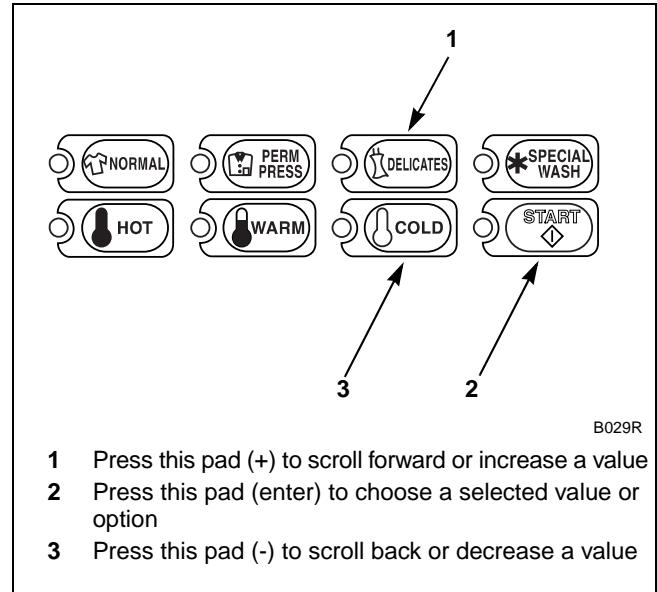

Figure 158
5. Press the DELICATES (+) or the COLD (-) keypad to increase or decrease the current number of minutes displayed in the VFD to the desired number of minutes. Refer to *Figure 158*.
**NOTE: The Delicates Wash Fill/Tumble Time can be set from zero (0) to 15 minutes.**